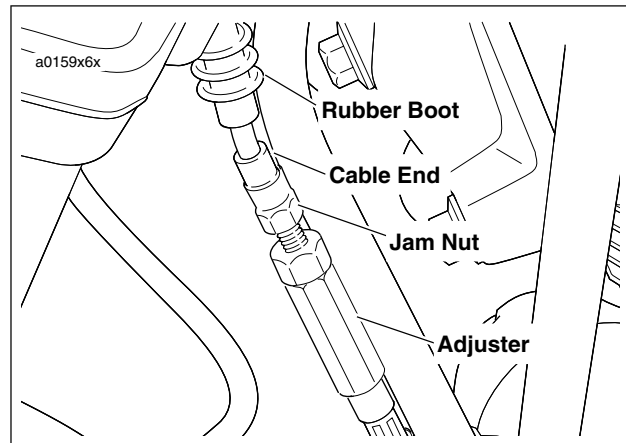

Figure 1-11. Clutch Cable Adjuster Mechanism
- See Figure 1-11. Slide rubber boot (1) upward to expose adjuster mechanism. Loosen jam nut (3) from adjuster (4). Turn adjuster to shorten cable housing until there is a large amount of freeplay at clutch hand lever.
- See Figure 1-11. Set freeplay by turning adjuster.